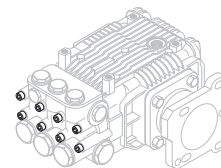

Figure 3
1. Using a metric allen wrench, remove the Socket Head Cap Screws securing the Pump Head to the Pump Body (See Figure 3).
1. Using a metric allen wrench, remove the socket head Cap Screws securing the pump head to the pump body (See Figure 3).